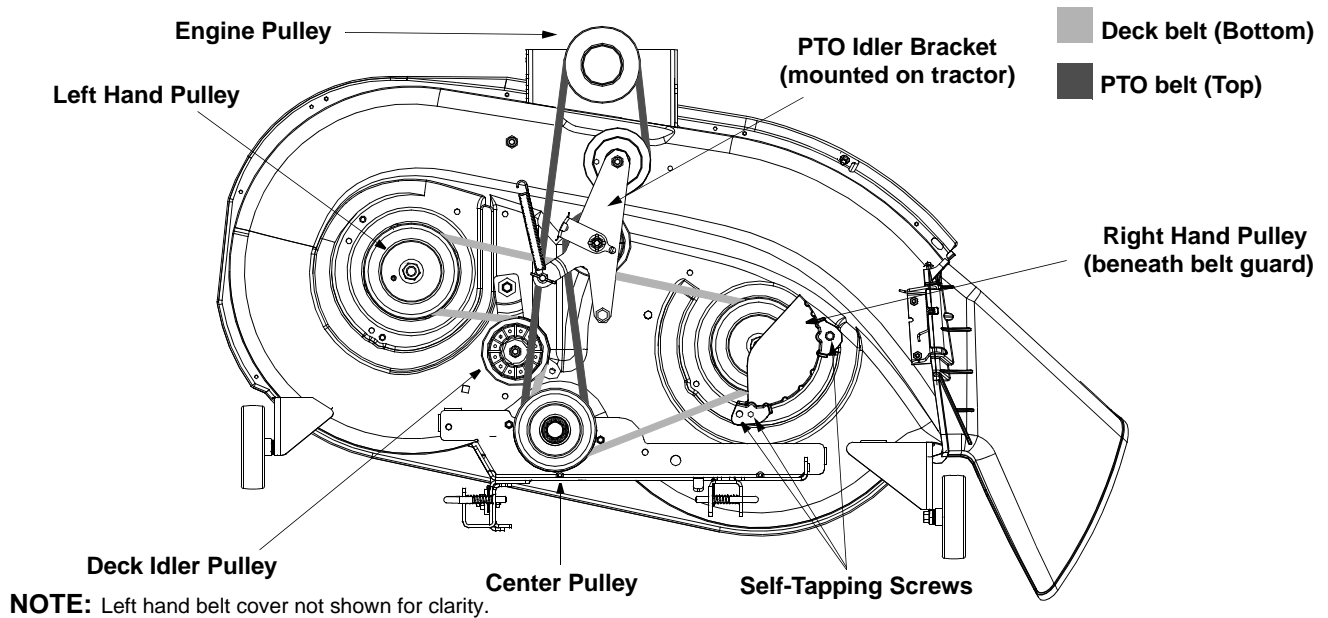

Figure 15
2. Remove the belt guards by removing the self-tapping screws that fasten them to the deck surface. See Figure 15 for location of the screws.
7. Route the new belts as shown in Figure 15. Remount the belt guards removed earlier.